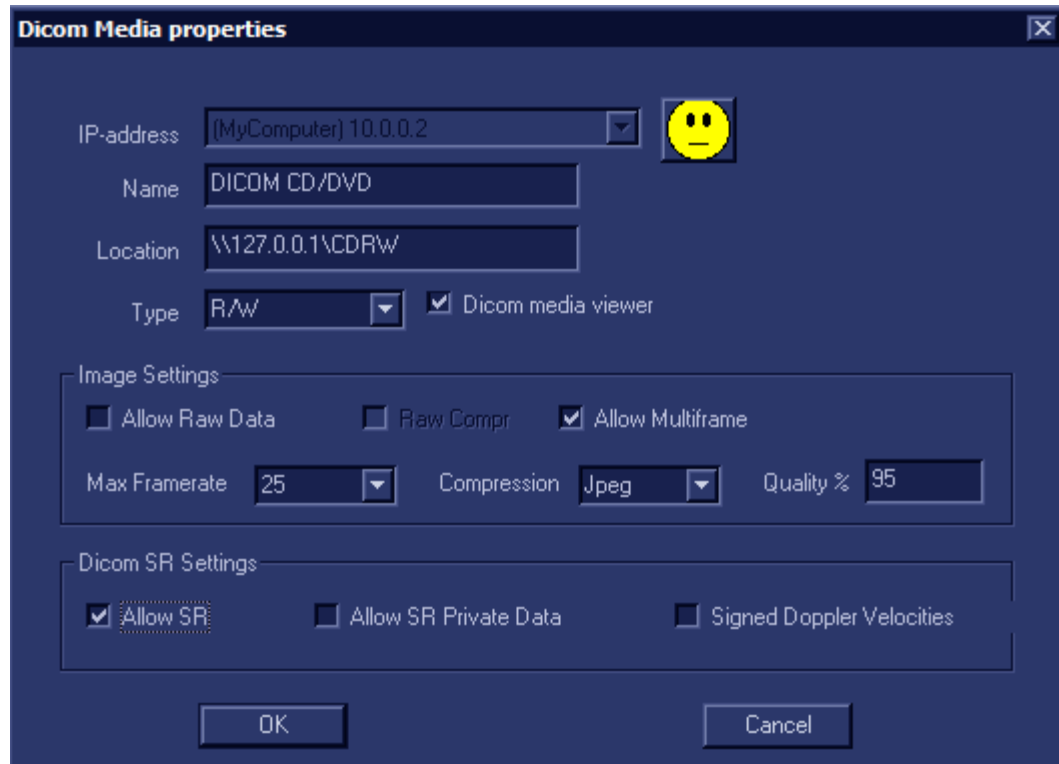
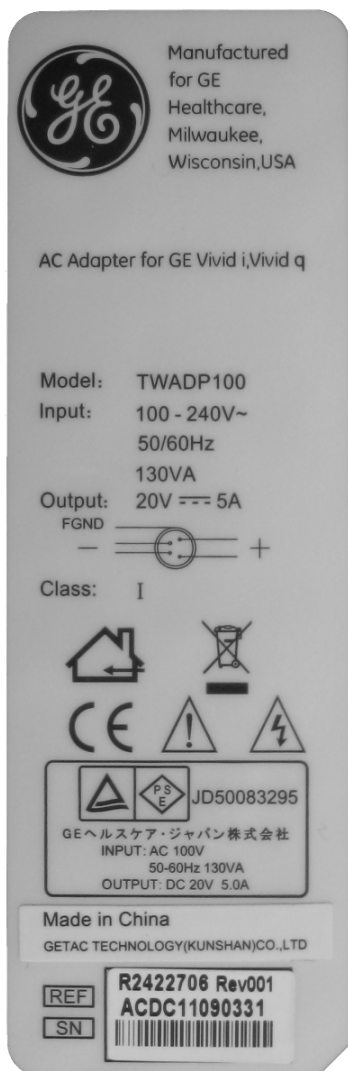

Fig. 1-2 - DICOM media properties
Fig. 2-1. AC Adapter Rating Label
6. Click the "Properties" button. The DICOM Media Properties window will appear. Place a checkmark besides "Dicom media viewer" (See Fig. 1-2) in order to include the DICOM viewer in the output media.
The AC Adapter label shown on Figure 1-2 (page 23) and on Figure 2-1 (page 55) has been revised. The updated revision is shown below.